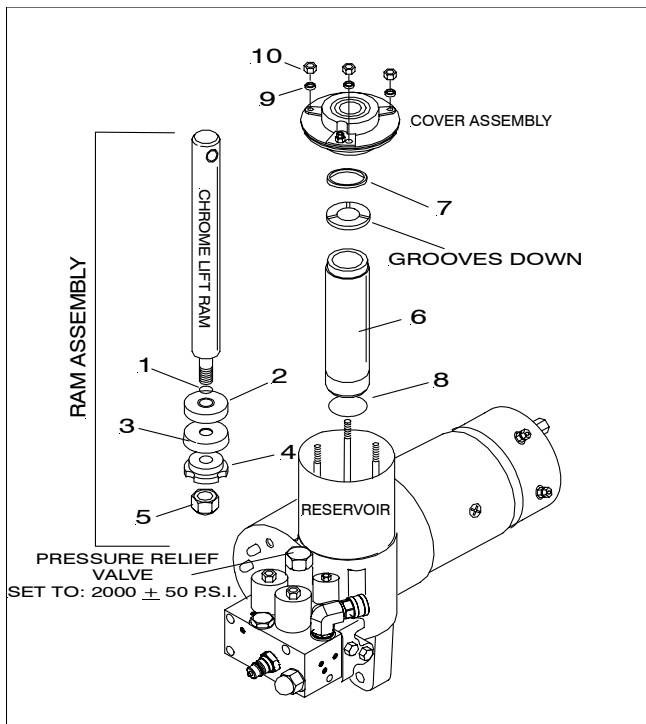

FIGURE 1
2. To disassemble Cover Assembly, remove the three Locknuts (10) and Nyltite Washers (9). See Figure 1.
3. Tap Cover Assembly up and off reservoir. If O-ring (7) came off with top cap discard it. This O-ring will not be reused.
4. Remove Lift Ram Assembly from Sump base. Remove O-ring (8) in bottom of Sump Casting. It will not be reused.
5. Remove chrome Ram Assembly from Lift Cylinder (6). Cylinder will not be reused.
6. To disassemble Lift Ram Assembly, remove nut (5), brass piston with packing cup, flatwasher and O-ring.
1. Assemble O-ring (1), Piston (2), Packing Cup (3), and Piston Follower (4) to Chrome Ram. Secure parts with nut (5). See Figure 1
2. Assemble Lift Ram Assembly into Lift Cylinder. Coat Piston Assembly with oil. Slide the Ram Assmbly from the bottom up into cylinder (6).
3. Tap Ram Assembly up into Cylinder (6) making sure that no damage occurs to threads at the end of ram assembly or to bottom of cylinder (6) where O-ring (8) will sit.
4. Assemble washer with grooves facing downward onto chrome ram followed by O-ring (7).
5. Assemble O-ring (8) in bottom of sump casting. Set Lift Ram Assembly squarley into sump base.
7. Assemble Nyltite Washers (9) over studs bevel down.
8. Secure Cover Assembly with nuts (10). Torque nuts to 125 in.lbs.